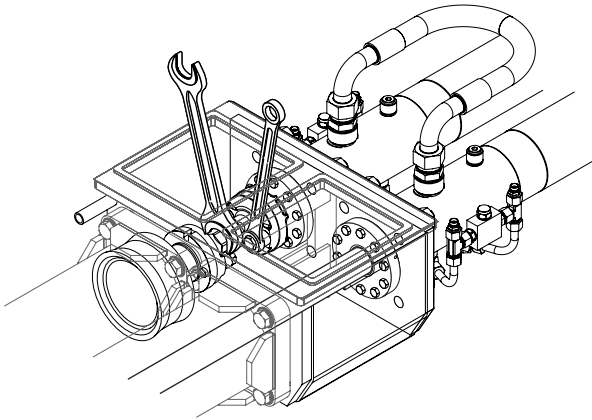

Figure 17
5. Using the 50mm open-end wrench and the 24mm X 30 mm box-end wrench provided, place the 50mm wrench on the spacer coupling to hold the assembly from turning. Use the 24mm x 30mm wrench to unscrew the four M20 bolts that hold the assembly together (Figure 17).